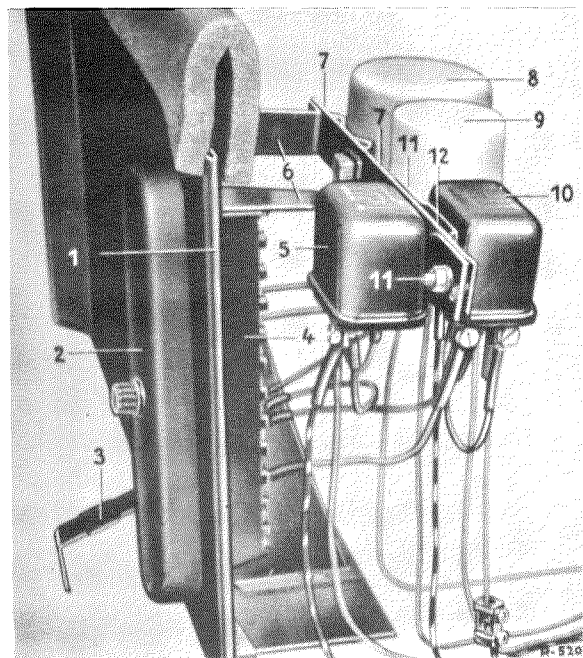

Fig. 54 — 15/3
7. Screw the disk-type horn (5) Bosch HO/FDF 12 4/8 (with medium tone) with the hexagon screw (11) M 10 × 28, together with nut and lock washer, onto the bracket (7) which is fitted to the wheel arch assembly.
8. Screw the disk-type horn (3) Bosch HO/FDF 12 5/8 (with high tone) with the hexagon screw (11) M 10 × 28, together with nut and lock washer, to the bracket (2) which has been welded to the cross-tube.
9. Unscrew the two hexagon screws (7) for fixing the two flash signal mechanisms (8) and (9) (see Fig. 54 — 15/3).
**Note:** The procedures in Paras. 9 and 10 are not necessary if the contactor (10) for the fog lights or the bracket (12) for the contactor (10) are already fitted
In this case the contactor (5) for the horn assembly should be so mounted that the rear sides of the two contactors are facing each other (Fig. 54 — 15/3).